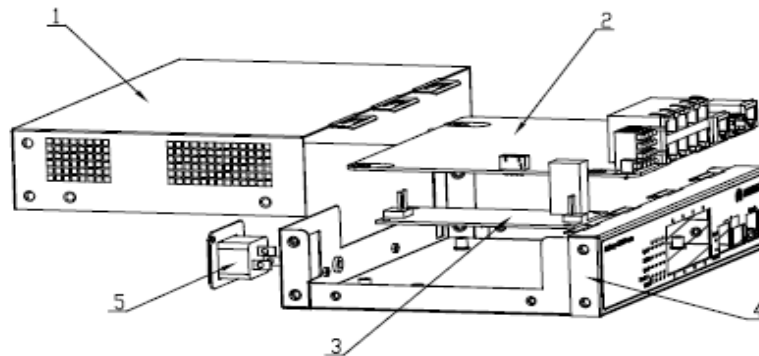

Figure 1 Treatments to the product
1. Unscrew the screws on cover 1, and then remove cover 1 according to Figure 1